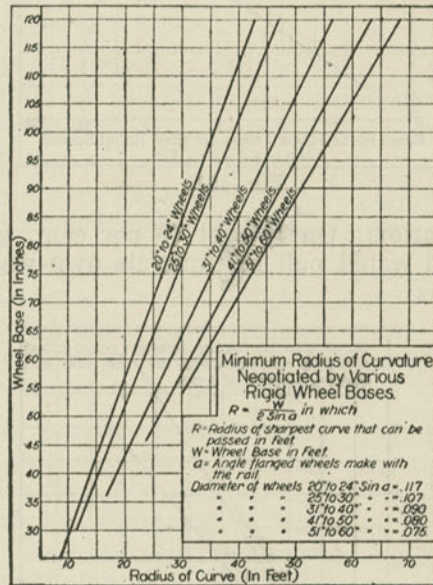

Fig. 402a.
A. This calls for considerable mathematical knowledge, and engineers use for that purpose either tables or diagrams such as Fig. 402a.